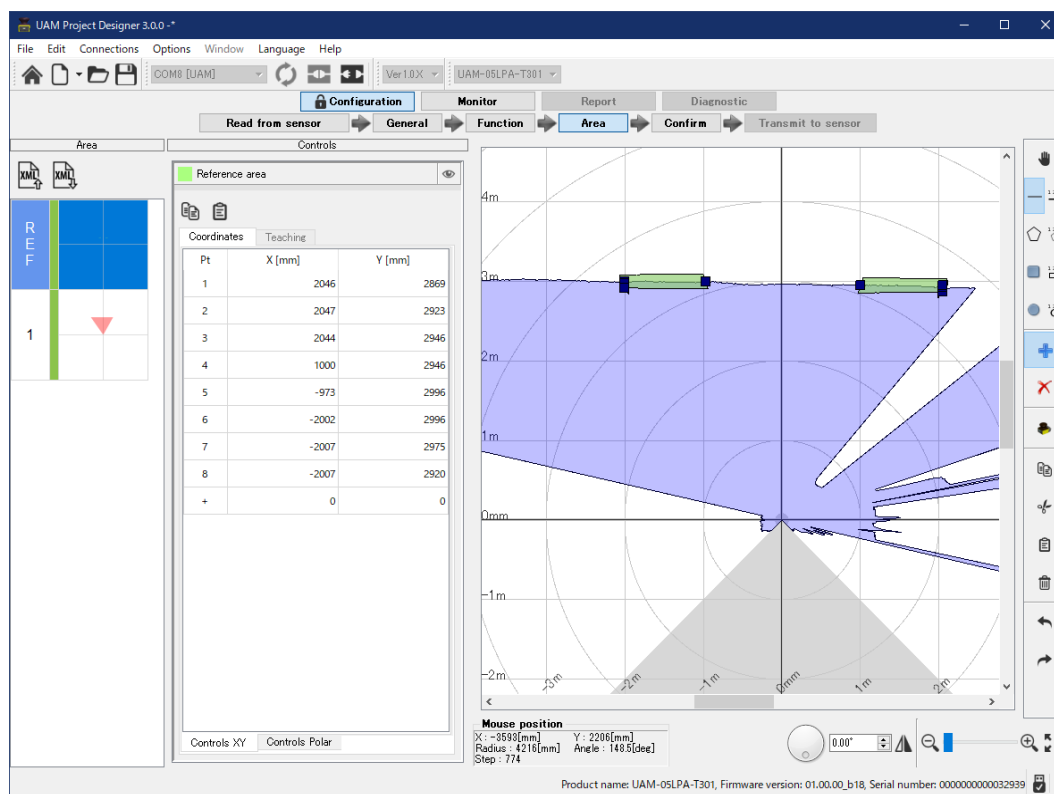

Figure 7-53 Reference region configuration example
- Main screen displays the configuration for reference region (Figure 7-53). First area on the preview indicated by “REF” represents the reference area.
For example, to monitor the sensor's displacement by referring the background, choose the line drawing tool and draw a line segment over the background by mouse drag and drop. Reference region with the  $\pm$ tolerance is generated on that location (Figure 7-53).